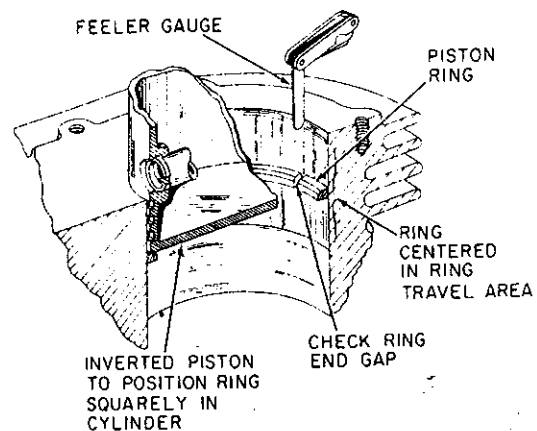

Figure 21
- (3) Check piston rings for wear visually and by inserting rings squarely in cylinder bore about 1/2 inch (12.7 mm) from top, then measuring end gap. (See Figure 21). Install new rings if end gap is more than maximum listed in table of ENGINE SIZES AND CLEARANCES.
- (4) Check cylinder bore wear by directly measuring maximum worn dimension or by measuring end gap of new piston ring positioned squarely at various distances from top of cylinder bore.